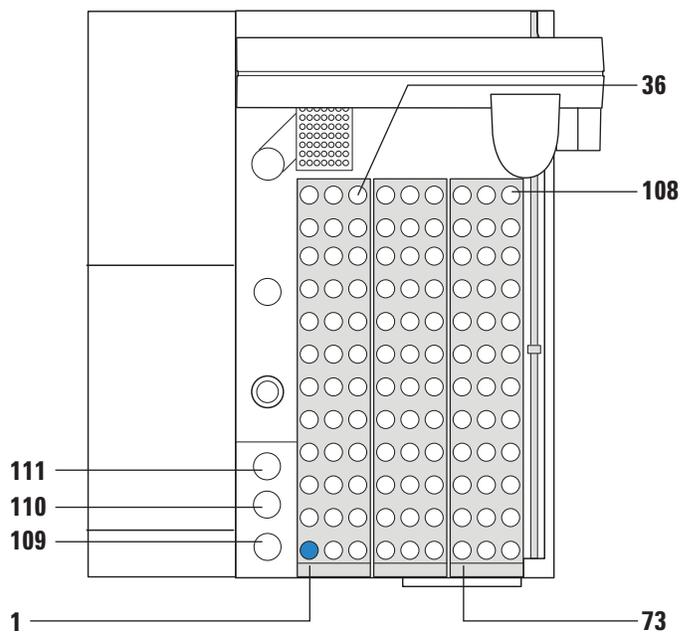

Figure 11 Tray vial positions
- 2 Place the capped sample vials into the tray as desired. See Figure 11.